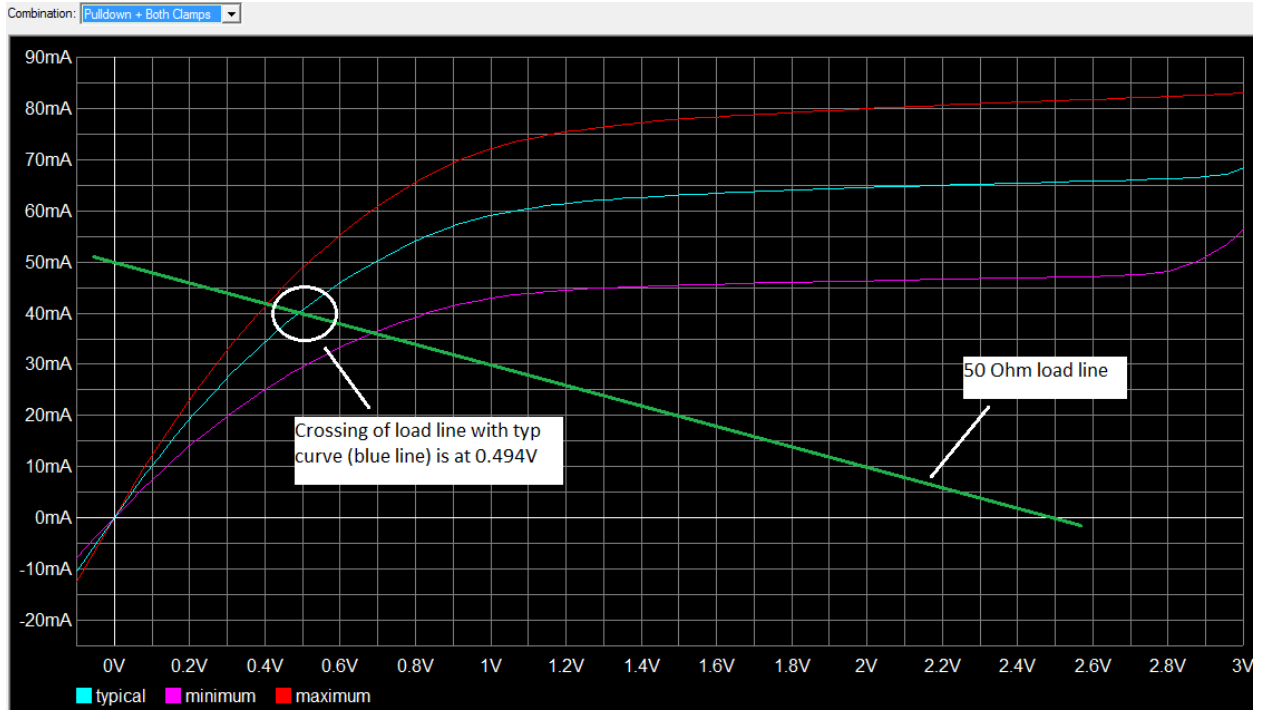
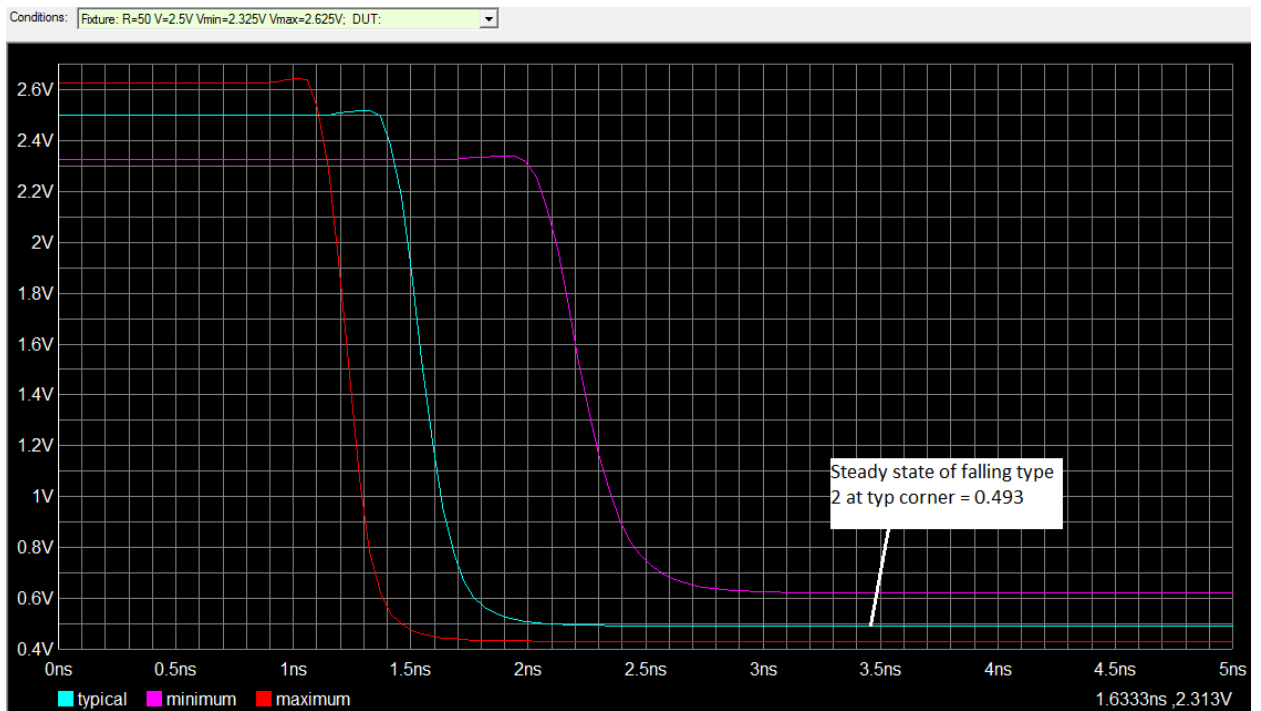

Figure 5-1. Crossing of 50 Ohm load line with the typical Pulldown + Both Clamps curves
Figure 5-2. Steady state voltage of the typical falling characteristics with $V_{\text{fixture}} = V_{\text{ccio}}$
- As shown in Figure 5-1, the crossing of the 50 load line with the typical Pulldown + Both Clamps curve (blue line) = 0.494V has no significant difference from the steady state of the falling characteristic type 2 = 0.493V in Figure 5-2